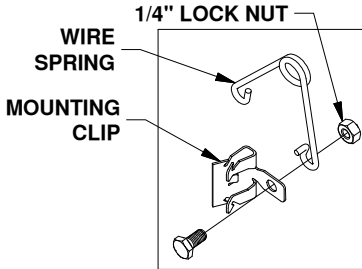
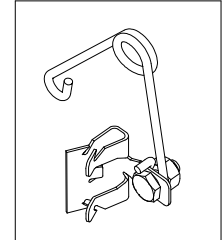

Figure D1:
Figure D2:
- 1. Assemble kit.** Locate the 1/4" cap screw and nut, along with the wire tension spring and mounting clip. Pass the 1/4" cap screw through the mounting clip and the wire spring, as shown in Figure D1. Thread the 1/4" lock nut onto the 1/4" cap screw. Tighten the lock nut just enough that the spring will stay in place but will still be able to rotate around the bolt if needed, see Figure D2.